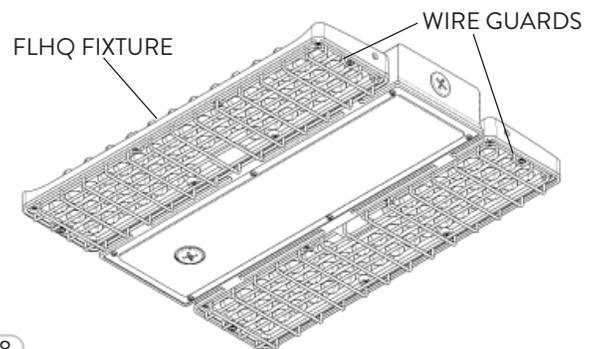

FIG. 18
- 3 The FLHQ fixture is now ready to be safely mounted onto various types of mounting methods and ready for wiring installation (Fig. 18).